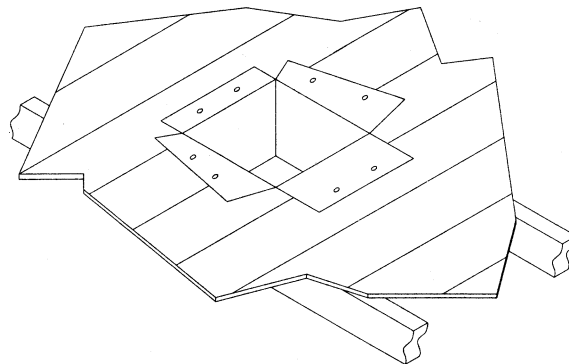

FIG. 18
- Step 5.** Using tin snips, cut the support box from the top corners down to the roofline, and fold the resulting flaps over the roof sheathing (Figure 18). Before nailing it to the roof, run a bead of non-hardening mastic around the top edges of the support box to make a seal between it and the roof. Clean out any combustible material from inside the support box.